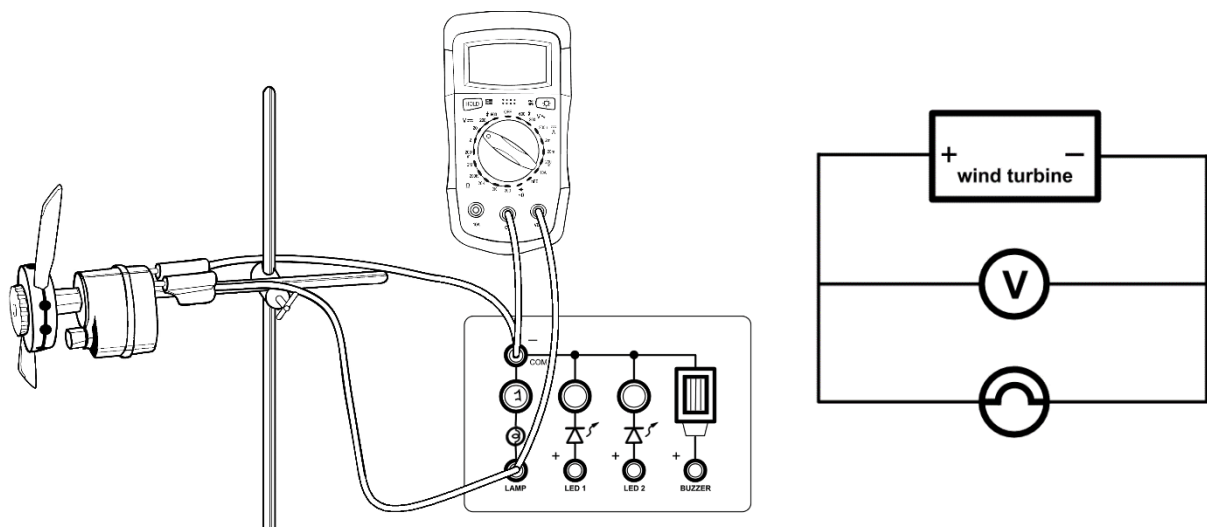
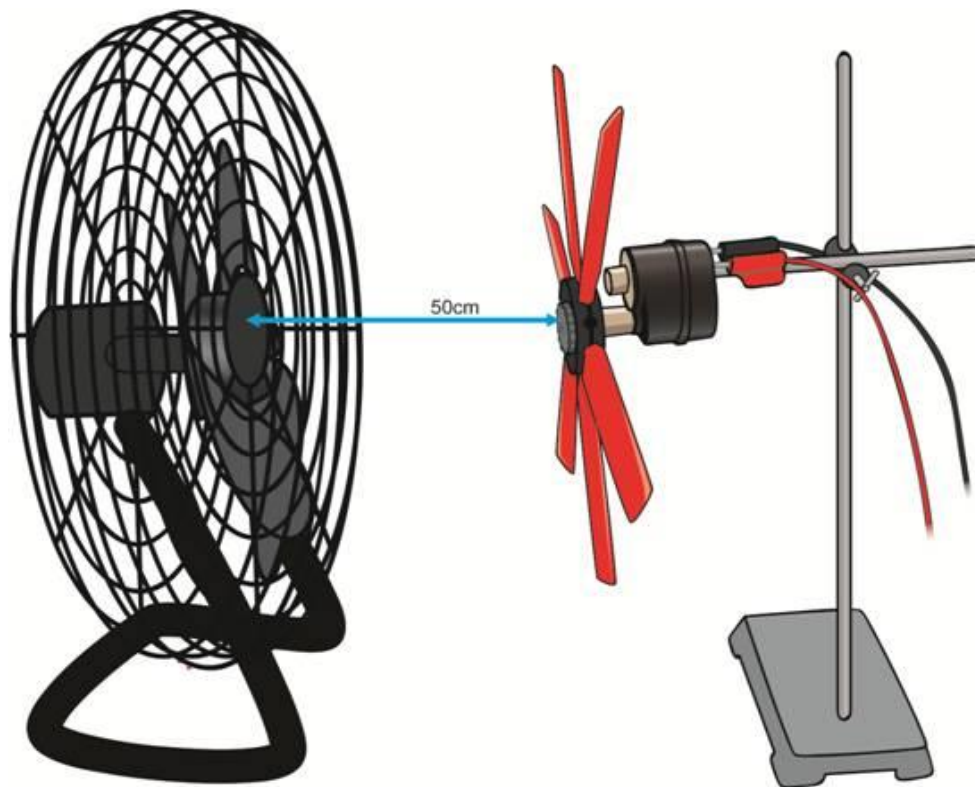

Figure 1. The set up
Figure 3. The correct relative positions of the fan and the turbine
1. Make sure the six blades are tight in the hub of the turbine and are all at  $45^{\circ}$  to the face of the hub, like those in Figure 3 below. Then set up the model wind turbine in the stand, as shown in Figure 1. Make sure that the hub is tight on the motor drive shaft and that you are using the bottom shaft, as shown in Figure 1, which means the model wind turbine will be ungeared.
2. Connect the circuit as shown in Figure 1, with the plugs inserted into the LAMP sockets of the STELR testing station.
3. Place the three-speed fan on the bench so that the front of the fan is 50 cm from the front of the hub on the wind turbine, as shown in Figure 3. **Do not turn on the fan, yet!**
4. Raise or lower the turbine on the retort stand so the centre of the wind turbine's hub is at the same height above the bench as the centre of the fan's hub. The two hubs should be in a direct line with each other, as in Figure 3.
2. Add six more blades to the hub so you now have 12 blades equally spaced, still set at 45°. Tighten the screw so the blades are firmly held again, insert the hub and blades back onto the bottom turbine shaft, as shown in Figure 1. Make sure that the hub is tight on the shaft.